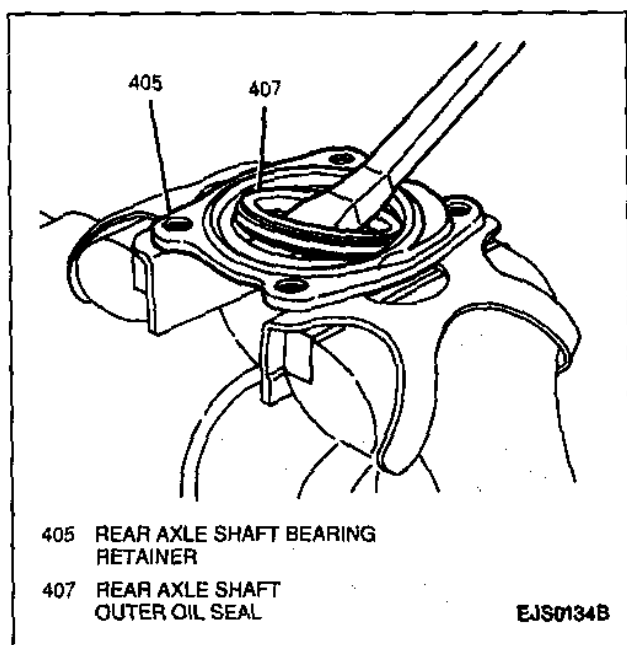

Figure 13—Removing Rear Axle Shaft Outer Oil Seal
14. Rear axle shaft outer oil seal from the rear axle shaft bearing retainer (Figure 13).